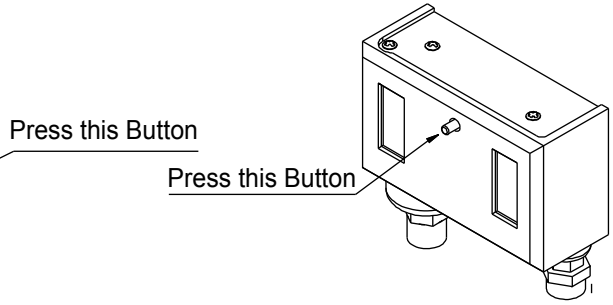

Figure 26
- 2 \ Open the rear cover, find the refrigerant pressure switch, and press "RESET" button. (See Figure 26)